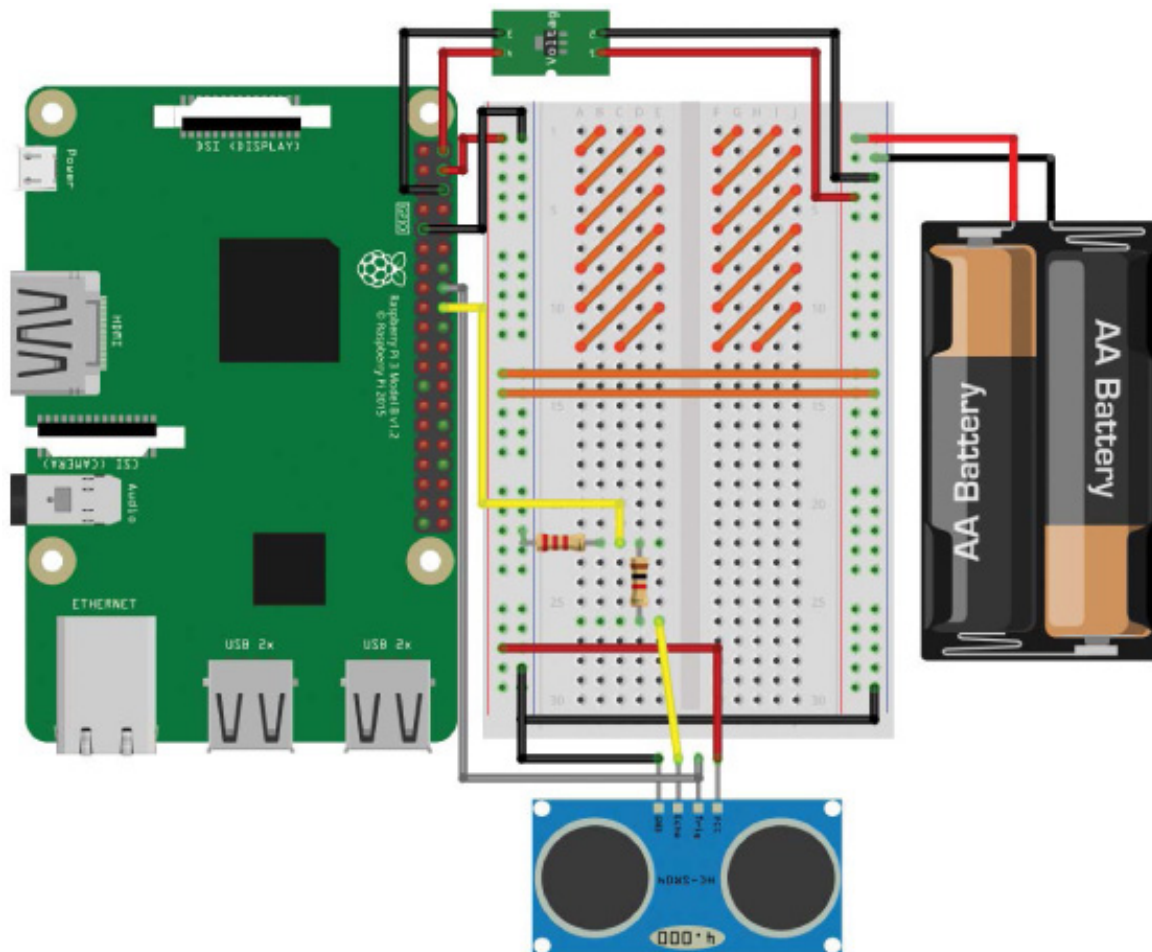

FIGURE 5-7 The completed breadboard diagram with the HC-SR04 and voltage divider in place
6. Finally, place one leg of your 2 kΩ/2.2 kΩ resistor in the row with the 1 kΩ resistor and jumper wire to your Pi's BCM 24 pin, and place the other leg of this resistor in a ground rail. The complete circuit on your breadboard should look something like Figure 5-7.